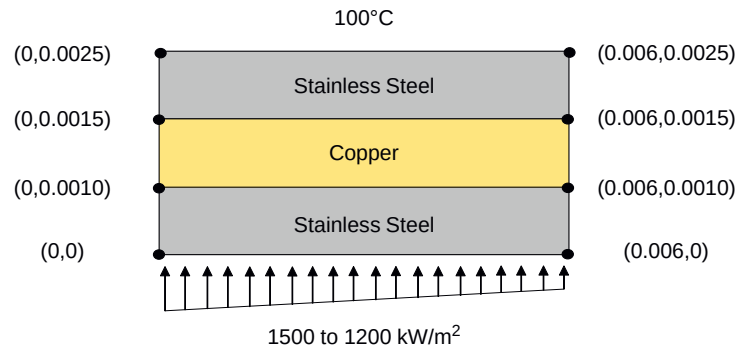

Figure 10-2-7 Updated Model Geometry (Cu = 0.5 mm).
- 6-2. Update the geometry for the thinnest copper layer (Figure 10-2-7).